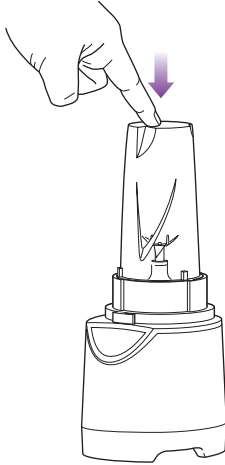

Fig. 3
- 5 Press down on the top of the cup in short intervals to activate. (Fig. 3)
- 6 Holding the lid by the handle in the upright position, place it on top of the bowl aligning the arrow (▼) located on the lid with the arrow (▲) located on the bowl's handle. (Fig. 3)